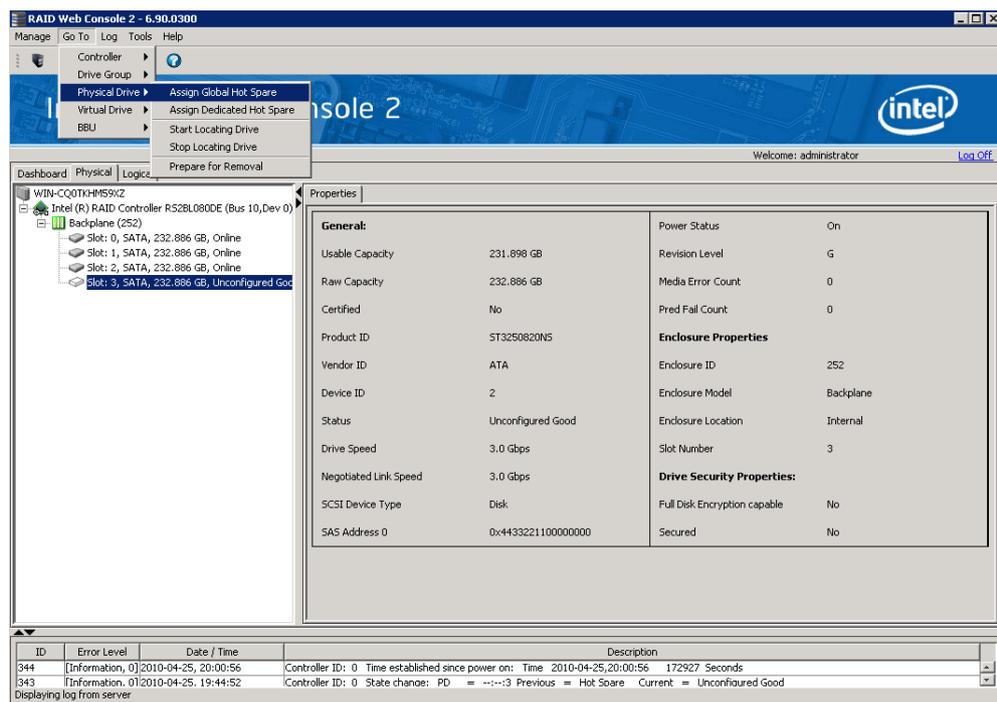

Figure 110. Assign Global Hotspare
2. In the Menu, click the **Go To -> Physical Drive** tab and select **Assign Global Hotspare**, as shown in Figure 110.